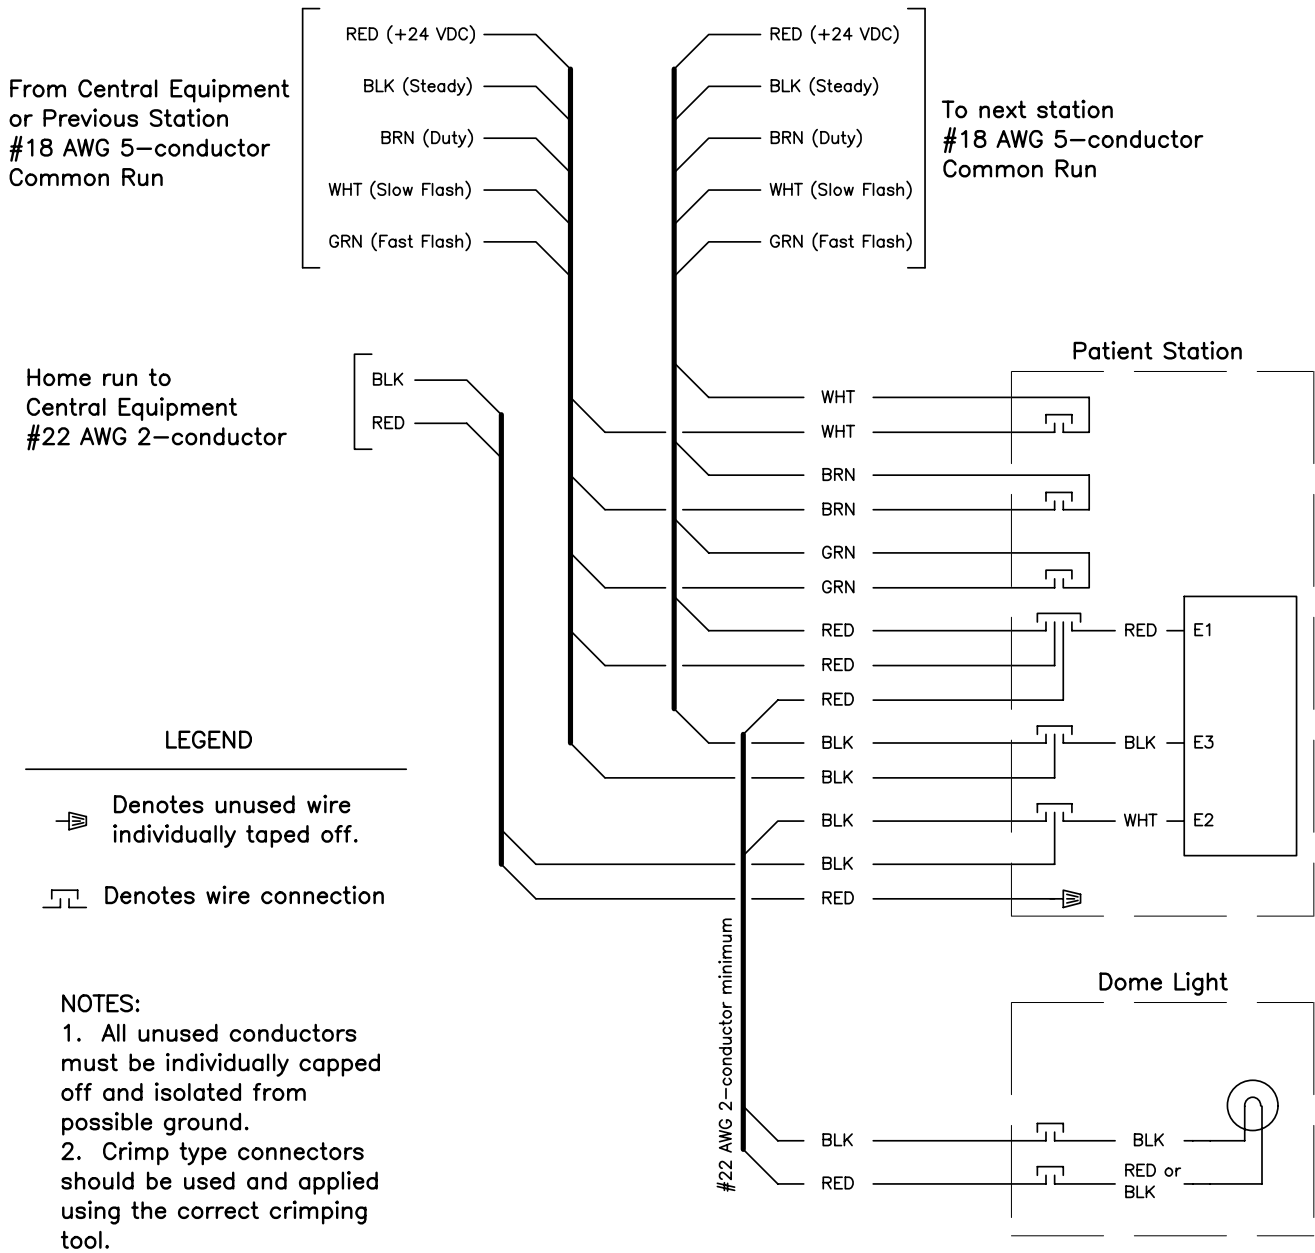

Figure 1. Connections for Patient Station Using Station-to-Station Cabling
When wiring a station unit in a room with station-to-station cabling, refer to Figures 1 and 2 as applicable, and proceed as follows:
- a. Splice the zone common cabling in the patient station backbox directly to the color-coded wires of the station unit per Figures 1 and 2.
CAUTION: Pay close attention to the notes in Figures 1 and 2 and check all ground connections carefully. For connections at the central equipment see Section 610.